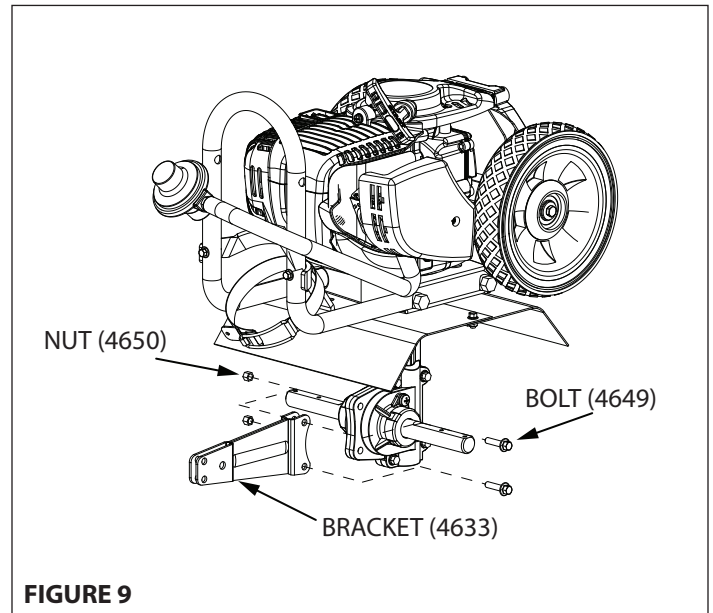

FIGURE 9
2. Remove bolts (4649) and nuts (4650) from transmission casting. **SEE FIGURE 9**
3. Secure bracket (4633) to transmission casting with bolts (4649) and nuts (4650). **SEE FIGURE 9**